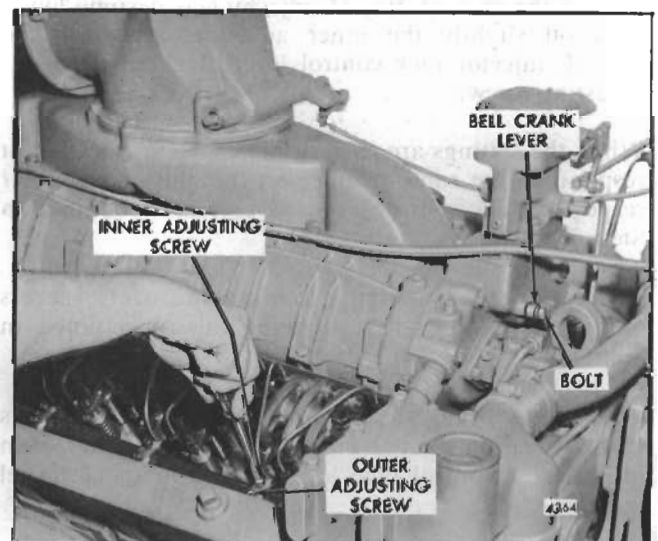

Fig. 2 - Positioning No. 1R Injector Rack Control Lever
5. Place the bolt (removed from the lower end of the vertical link) through the bell crank and into the recessed hole in the drive housing (Fig. 2).
6. **Adjust the No. 1R injector rack** by turning the inner adjusting screw down until it bottoms on the control tube (Fig. 2). Turn down the outer adjusting screw until it also bottoms on the control tube. Then alternately tighten both the inner and outer adjusting screws.